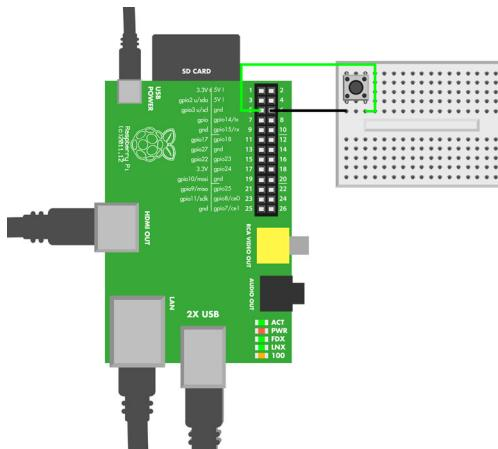

Figure 4-2. Button on breadboard
Build the circuit as shown in Figure 4-2. You’ll need to follow these steps:
- Choose a breadboard column with a pair of button leads in it. Plug the male end of a jumper wire into that row, and connect the wire's other end to GND (pin 6 in Figure 4-2) on the Raspberry Pi.